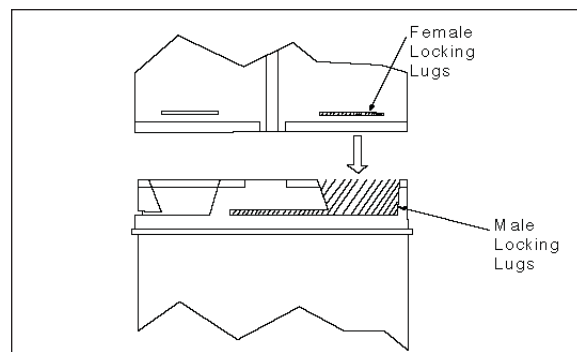

Figure 5
The SLD-Series Direct Vent Pipe is unitized and twist-locks together. For the twist-lock procedure, consult Figure 5 and do the following:
a. Four [4] indentations, located on the female ends of pipes and fittings, are designed to slide straight onto the male ends of adjacent pipes and fittings. By orienting the four [4] pipe indentations so they match and slide into the four [4] entry slots on the male ends. See Figure 5. Push the pipe sections completely together, then twist-lock one section clockwise approximately one-quarter turn, until the two sections are fully locked. The female locking lugs will not be visible from the outside, on the Black Pipe or fittings. They may be located by examining the inside of the female ends.
a. Four [4] indentations, located on the female ends of pipes and fittings, are designed to slide straight onto the male ends of adjacent pipes and fittings, by orienting the four pipe indentations so they match and slide into the four [4] entry slots on the male ends. See Figure 5. Push the pipe sections completely together, then twist-lock one section clockwise approximately one-quarter turn, until the two sections are fully locked. The female locking lugs will not be visible from the outside, on the Black Pipe or fittings. They may be located by examining the inside of the female ends.